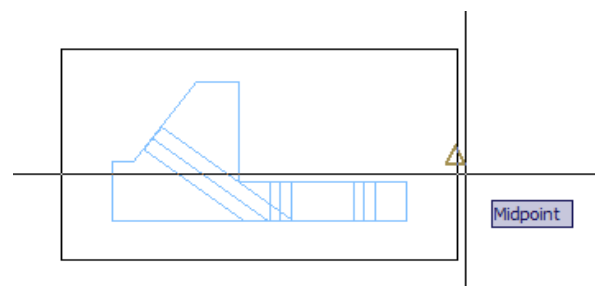

Figure Step 10A
Step 10 Using what you just learned, create the right side view and name it Right as shown in Figure Step 10A and 10B.